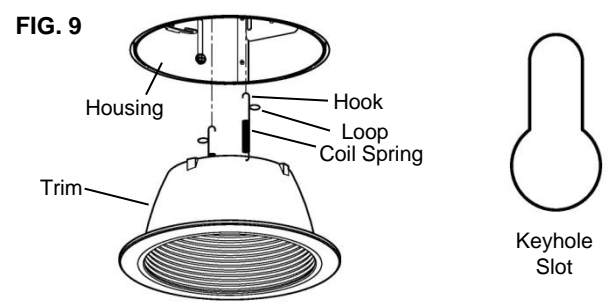

FIG. 9
1. After installing and finishing the ceiling surface, insert the trim into the housing. Insert the tip of a pencil into the loop of one of the coil springs. Push the loop upward, stretching the coil spring, inserting the hook into one of the keyhole slots locate on the socket plate. Repeat with the remaining coil spring with the remaining keyhole slot to secure the trim in place. (FIG. 9)